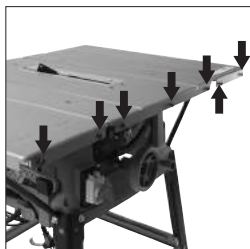

Fig. 11
- Attach the seven coach bolts (**R**) within the seven holes of the machine (two in each extension and three in the main aluminium table) using washers (**O**) and ø6mm nuts (**S**). Hand tighten only. (**Fig. 11**)